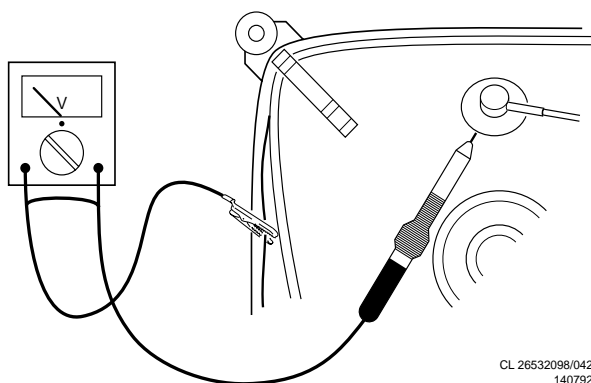

Figure 3-1
1. In order to prevent damage to ICs and transistors, all high-voltage flashovers must be avoided. In order to prevent damage to the picture tube, the method shown in Fig. 3.1 should be used to discharge the picture tube. Use a high-voltage probe and a multimeter (position DC-V). Discharge until the meter reading is 0V (after approx. 30s).